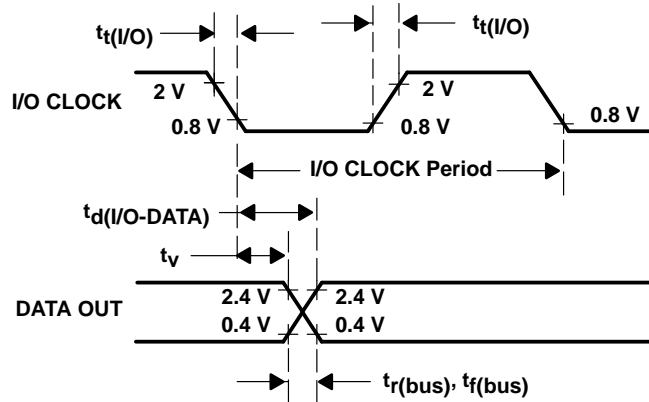

Figure 6. I/O CLOCK and DATA OUT Voltage Waveforms
10. I/O CLOCK period = $1/(\text{I/O CLOCK frequency})$ (see Figure 6).